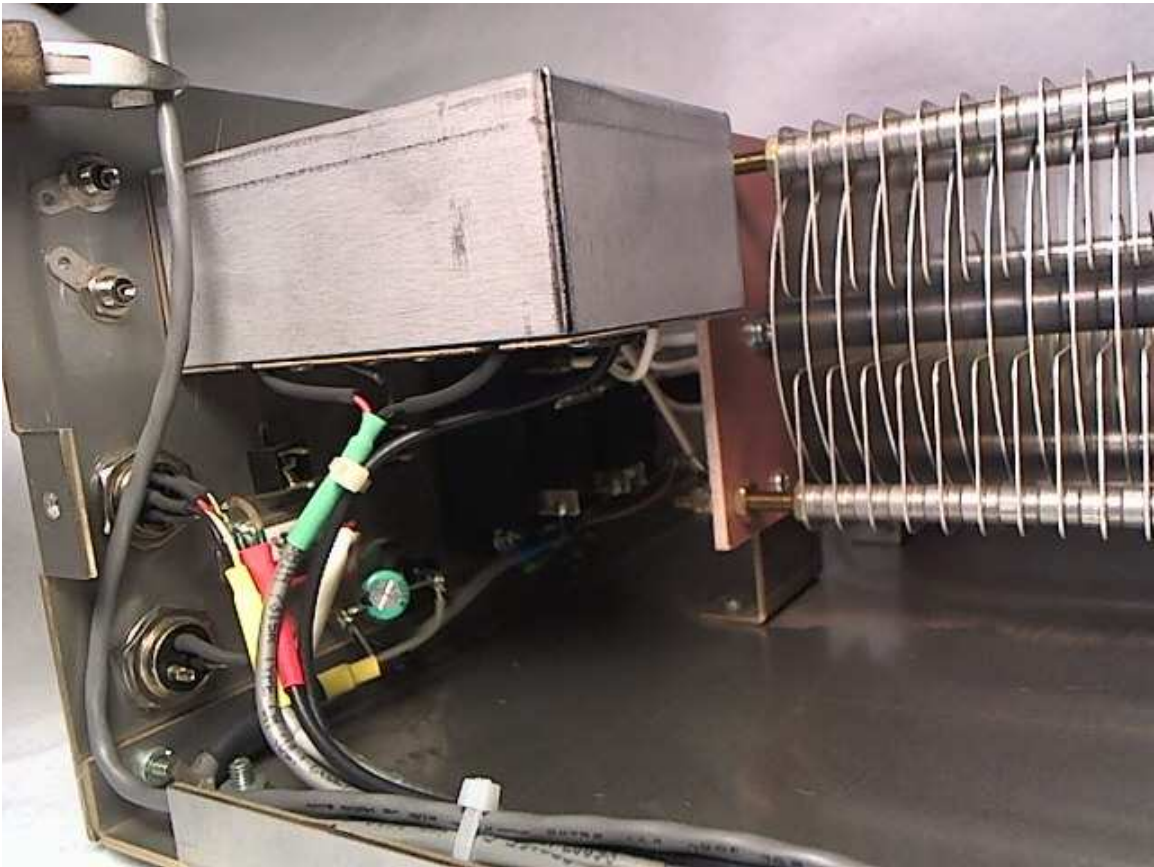
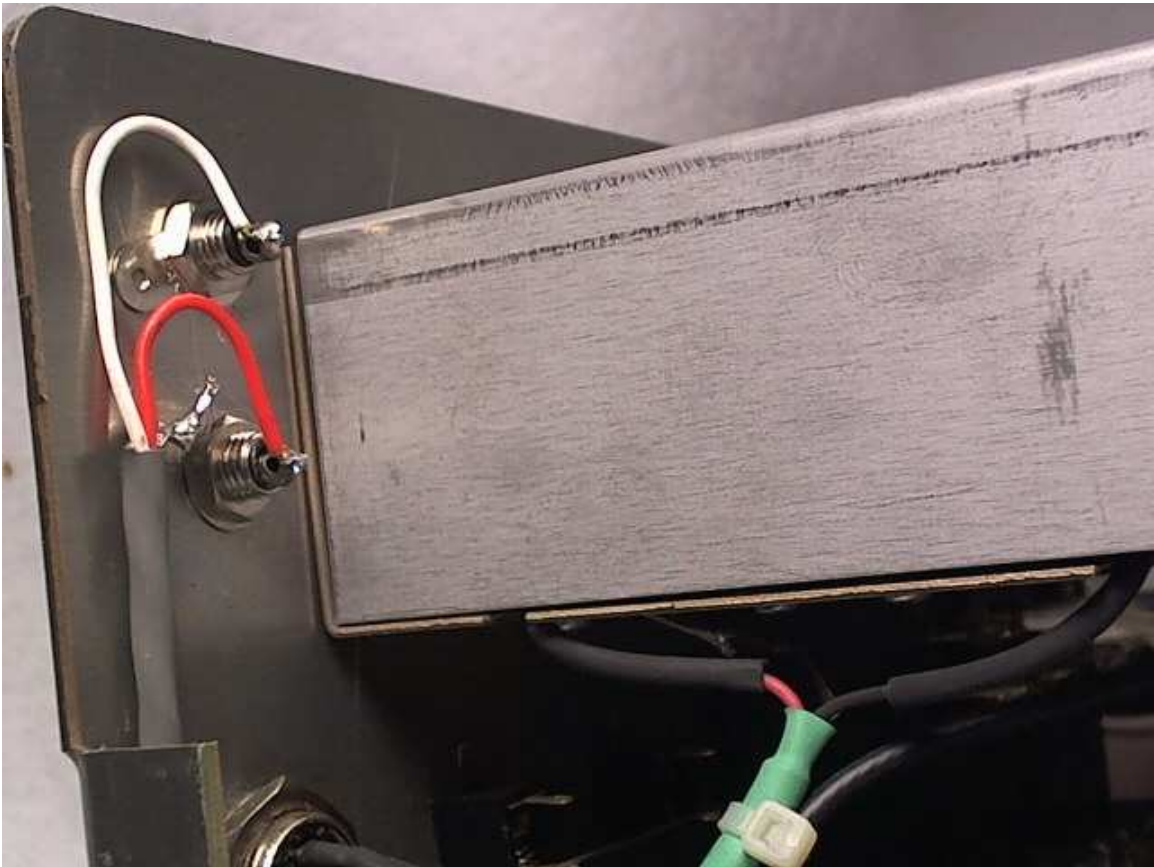

Figure 1.12: AT-AUTO_(tm) Excess Wiring Harness Removal
Figure 1.13: AT-AUTO_(tm) Soldering Wiring Harness to RCA Jacks
4. Remove excess wiring harness (Figure 1.12) and then strip and solder the harness to the RCA Jacks as shown Figure 1.13.